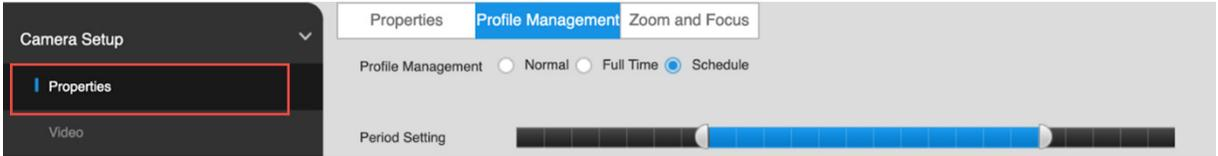

Fig. 4.12
11. While still on the Camera Setup page, select “Properties” located on the sidebar menu, see Fig. 4.12.